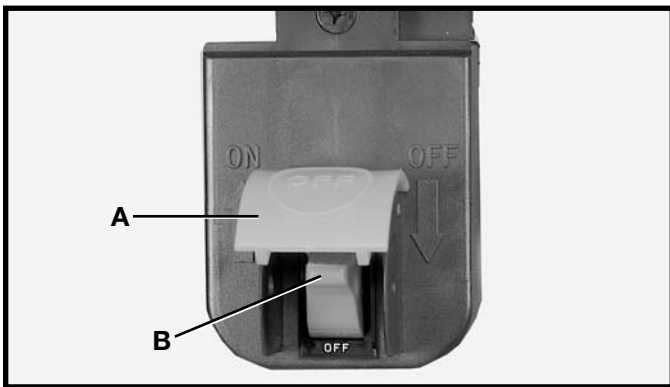

Fig. 94
1. The on/off switch is located underneath the switch shield (A) Fig. 94. To turn the saw "ON," move switch trigger (B) to the up position.